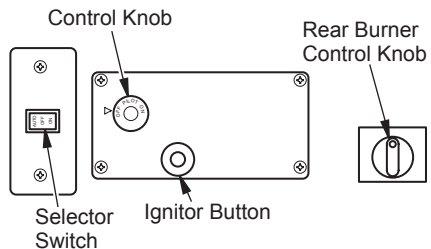

Figure 30 - Control Knobs and Ignitor Button Locations (Shown as Supplied, No Remote Control Operation)
5. Wait five (5) minutes to clear out any gas. Then smell for gas, including near the floor. If you smell gas, STOP! Follow "B" in the safety information on page 22. If you don't smell gas, go to the next step.
6. Press in and turn control knob counter-clockwise ↺ to the PILOT position. Press in control knob for five (5) seconds (see Figure 30).